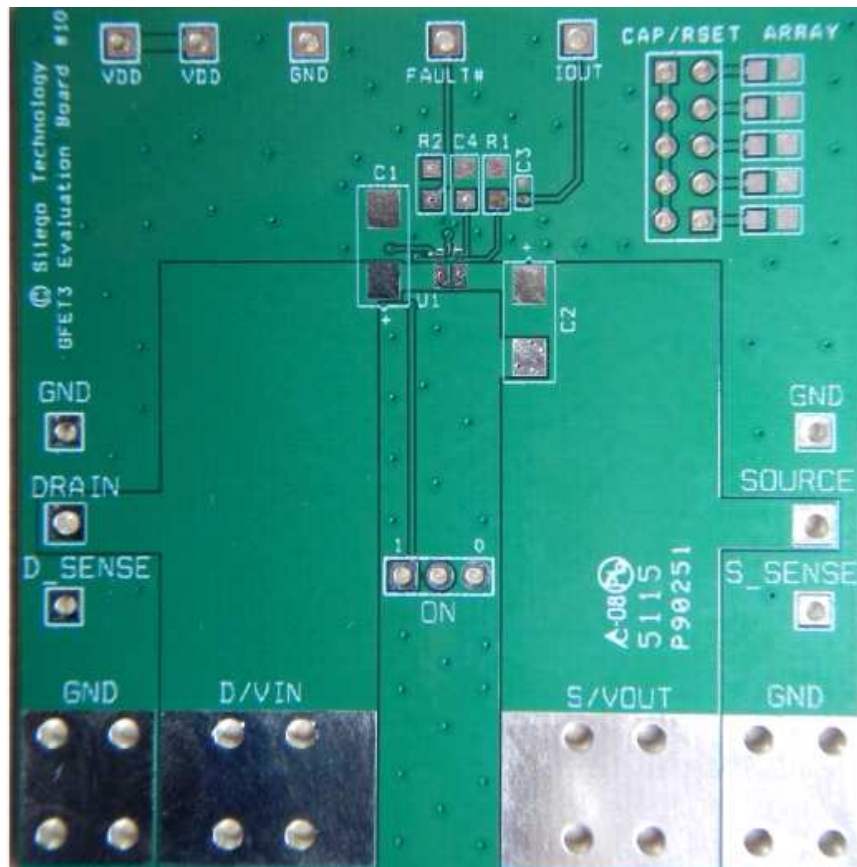

Figure 1. SLG59M1714V Evaluation Board
2. Since the VIN and VOUT pins dissipate most of the heat generated during high-load current operation, it is highly recommended to make power traces as short, direct, and wide as possible. A good practice is to make power traces with an absolute minimum widths of 15 mils (0.381 mm) per Ampere. A representative layout, shown in Figure 1, illustrates proper techniques for heat to transfer as efficiently as possible out of the device;
A GreenFET Evaluation Board for SLG59M1714V is designed according to the statements above and is illustrated on Figure 1. Please note that evaluation board has D\_Sense and S\_Sense pads. They cannot carry high currents and dedicated only for RDSON evaluation.